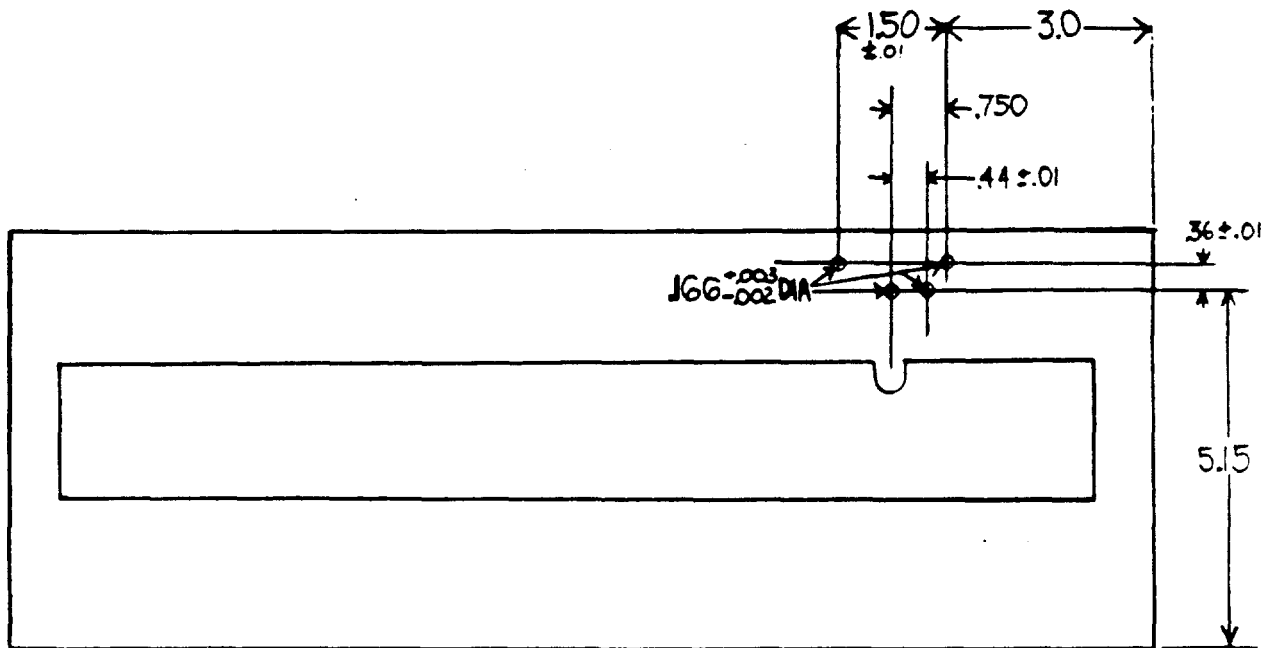

Figure 1. Exciter Chassis (Right Side)
4. Drill four holes in the upper right side panel of the exciter, per figure 1.
The remote control unit circuit is illustrated in detail in schematic diagram figure 1, and described as follows: Audio from the remote site is applied to TB1 and coupled to T1, then to the bandpass audio amplifier U1. It is then passed through T2 to the exciter 600Ω audio input Line. The level is adjusted by R3. The audio input is also diverted from the bandpass amplifier to the VOX amplifier, U4; the 1800 Hz bandpass filter; and the 2400 Hz bandpass filter.